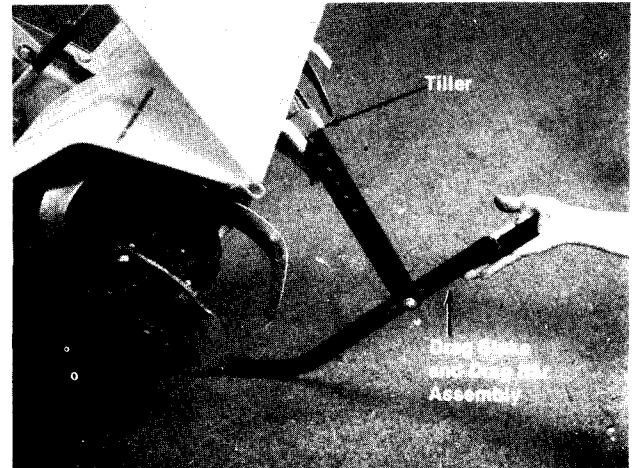

FIGURE 6.
- D. Tip the tiller forward, so it rests on counterweight. Slide drag stake up through tiller as shown in figure 6. Pull drag stake adjustment pin on tiller to lock in place.